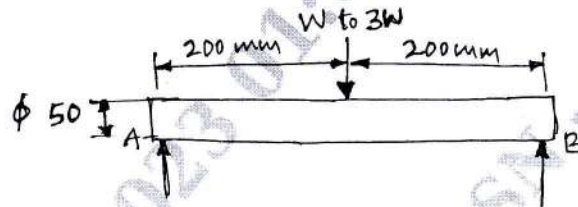

Fig.Q4(b)
- b. Determine the maximum load for simply supported beam cyclically load as shown in Fig.Q4(b). The ultimate strength is 700MPa, the yield point in tension is 520MPa and the endurance limit in reversed bending is 320MPa. Use a factor of safety of 1.25. The load, size and surface correction factors are 1, 0.75 and 0.9 respectively.